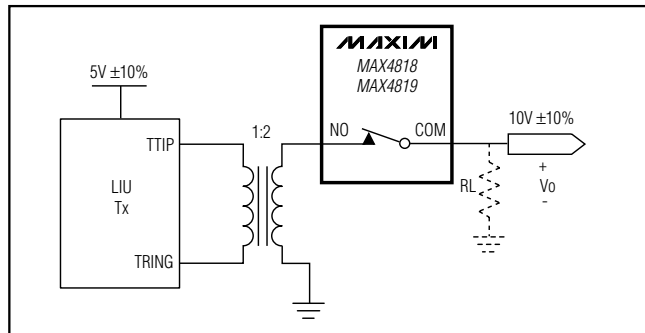

Figure 1. Fault Protection
The fault protection of the MAX4818/MAX4819 allows the devices to handle input signals of more than twice the supply voltage without clamping the signal, latching up, or disturbing other cards in the system. The device detects when the input voltage drops below the negative supply. As soon as a fault condition is detected, the switch is immediately turned off for 128 clock cycles (typically 128µs). At the end of the 128µs timeout, the switch is turned back on for one clock cycle. At the end of the one clock cycle, if the signal is within the operating range, the switch will remain on. Otherwise, the device will turn the switch off again for 128 clock cycles. This will repeat until the signal is within the operating range. In T1/E1 redundancy applications, this can happen when the load resistor (RL) is removed or disconnected for any reason, as shown in Figure 1. Without a load resistor, the output voltage when using a 1:2 transformer can be as high as ±11V.